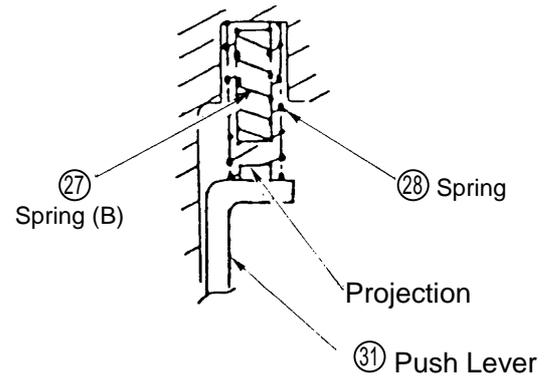

Fig. 16
- First, insert Spring (B) (27) inside the Spring (28). Next, confirm that the projection portion of the Pushing Lever (31) is properly installed into the Spring (28). (Refer to Fig. 16)
- When reassembling the Trigger (29), the D3 x 22 Roll Pin (30) can be easily inserted if the Pushing Lever (31) is pushed upward.
(2) Disassembly and Reassembly of Valve Bushing (C)
(42) and Related Parts :
- Ensure that Spring (B) (27) is inserted into the Spring (27). Then, confirm that the projection portion of the Pushing Lever (31) is properly installed into the Spring (28). (Refer to Fig. 16)